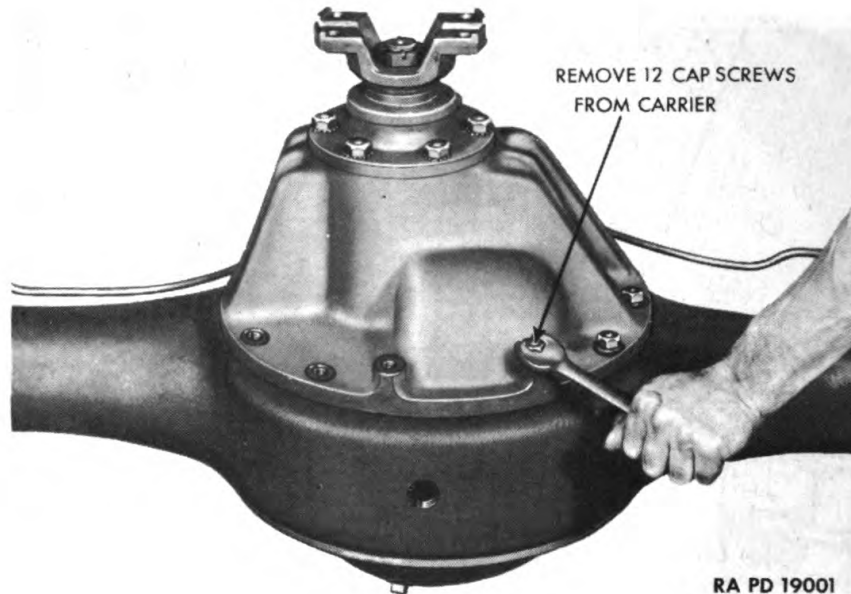

Figure 80 — Removing Differential Carrier Cap Screws
e. Remove Differential and Carrier. Remove 12 cap screws and lock washers from differential carrier flange (fig. 80). Attach chain to companion flange and, using hoist, lift differential and carrier from axle housing (fig. 40).
f. Disassemble Differential. With the exception of the bevel drive pinion and bevel drive gear ratios, the front and rear axle differentials are indential in construction. Therefore, for detailed disassembly instructions, refer to paragraph 28 O, (1) to (12).